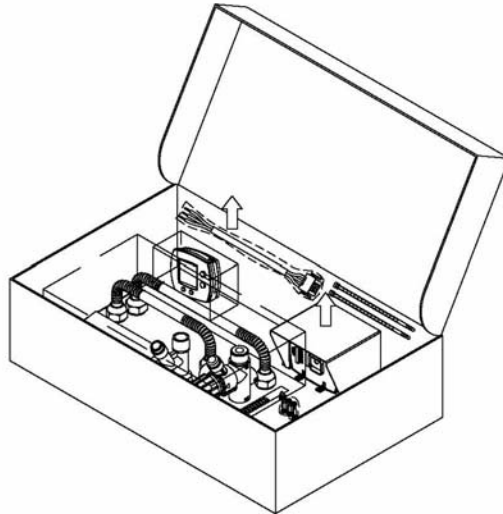

Figure 28
Step 1: Remove the Setback Control Junction Box Assembly and its components from their packaging. This is shown in Figure 28.